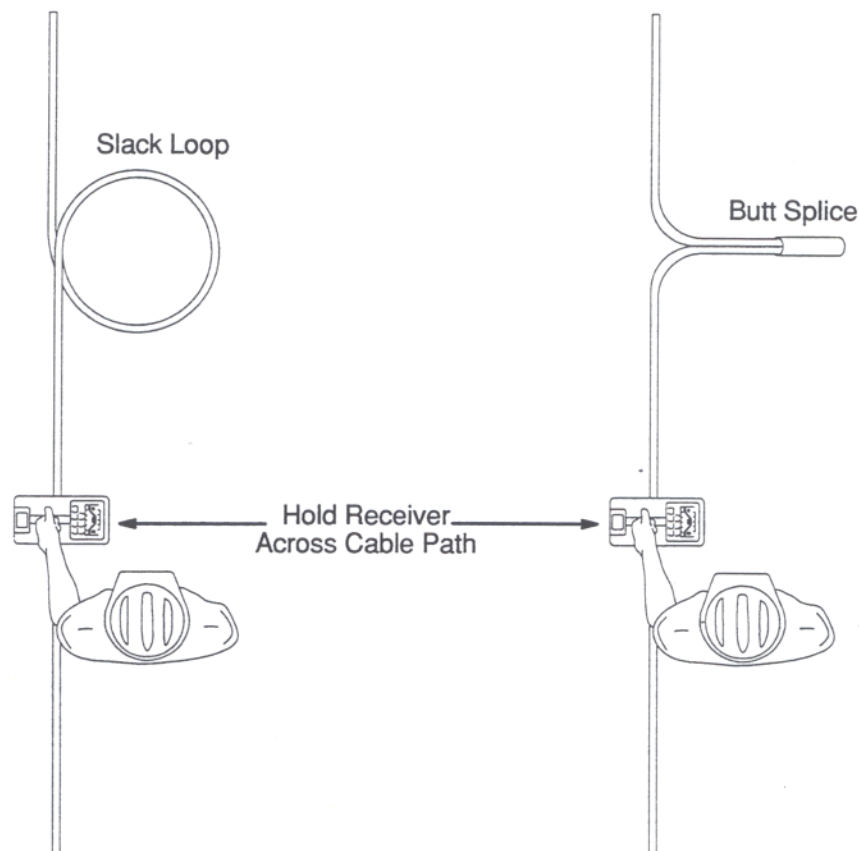

Fig. 4-3 Slack Loops and Butt Splices
- 4.1 To identify the presence of a Slack-Loop or Butt-Splice in a cable path, first locate and mark the cable path. Retrace the path using this procedure (Fig. 4-3).